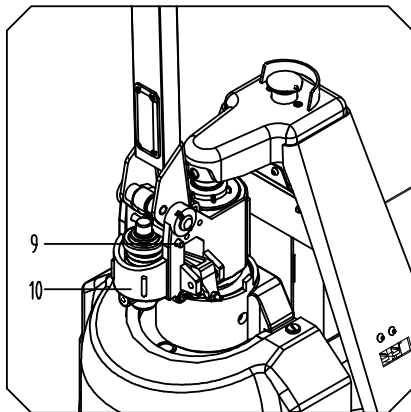
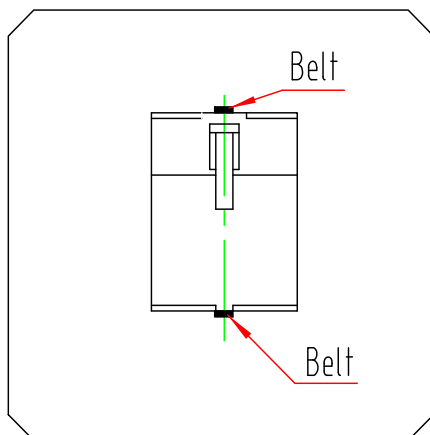

Figure 3
Figure 5
- 4.3 Refer to Figure 3、4. Insert handle assembly 5 into point A, connect handle assembly 5 with pump 10 through pin 2, and at this time you need to make pull rod chain 8 go through the hole in pin 2. Rotate handle 5 to the horizontal position and take out pin 9, and keep pin 9 well for the next use. Connect wiring harness in handle assembly 5 and the wiring harness on truck body through connector 6. You can fasten with a belt to ensure reliable connection (refer to Figure 5). After the wiring harness has been connected, fix wiring harness to handle assembly 5 through line card 7 according to Figure